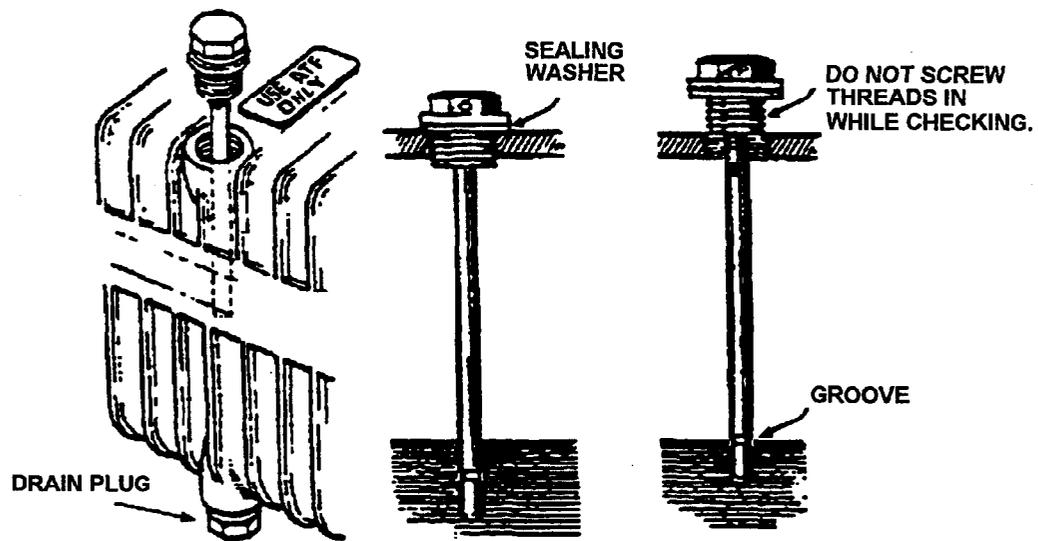

Figure 3-1. Transmission Fluid Level
9. When checking transmission fluid level, unscrew the dipstick, wipe it clean, and replace ( DO NOT SCREW IN). Remove again to check level, then replace and screw down lightly by hand. The threads should run in clean. See Figure 3-1. Transmission Fluid Level.